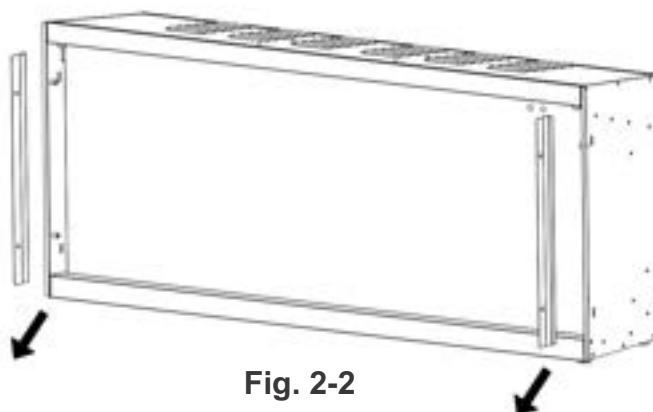
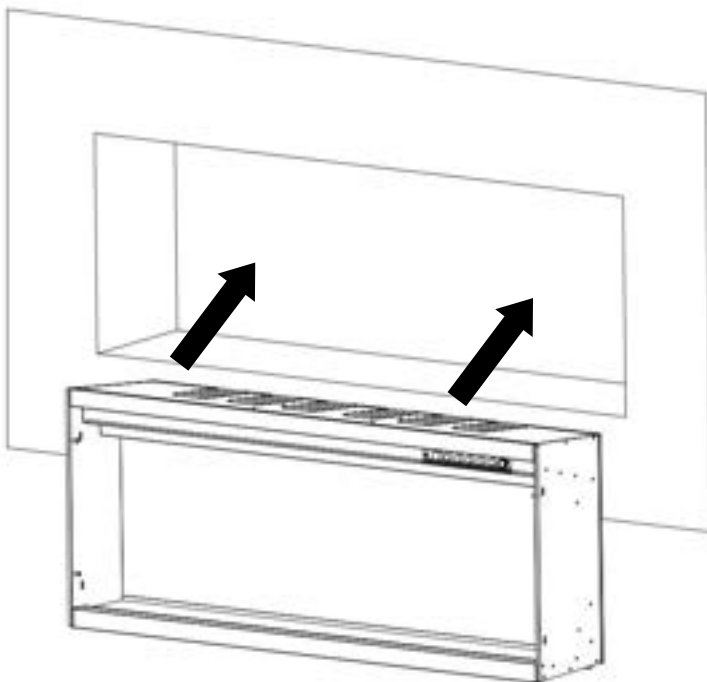

Fig. 2-2
Fig. 3-1
- Carefully take the metal bracket(s) away from the appliance. Place it face down on a soft, non-abrasive surface. (Fig. 2-2)
B. Insert the fireplace into the rough-in frame and then secure it by installing **4** wood screws (**B**) through the holes (Fig. 3-1, Fig 2-2).